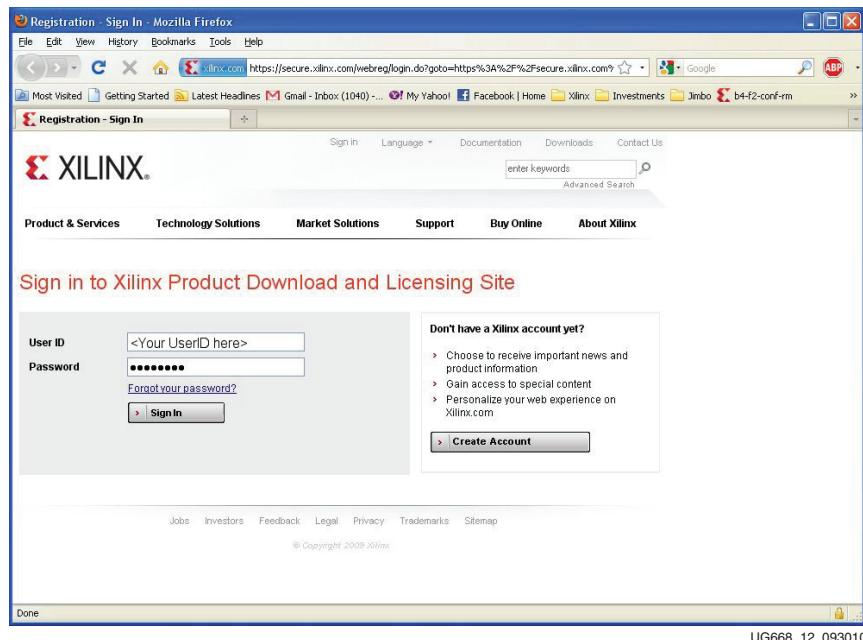

Figure 12: Sign In to Xilinx Product Download and Licensing Site
2. This launches the Web browser and takes you to the Xilinx product download and licensing site (Figure 12).